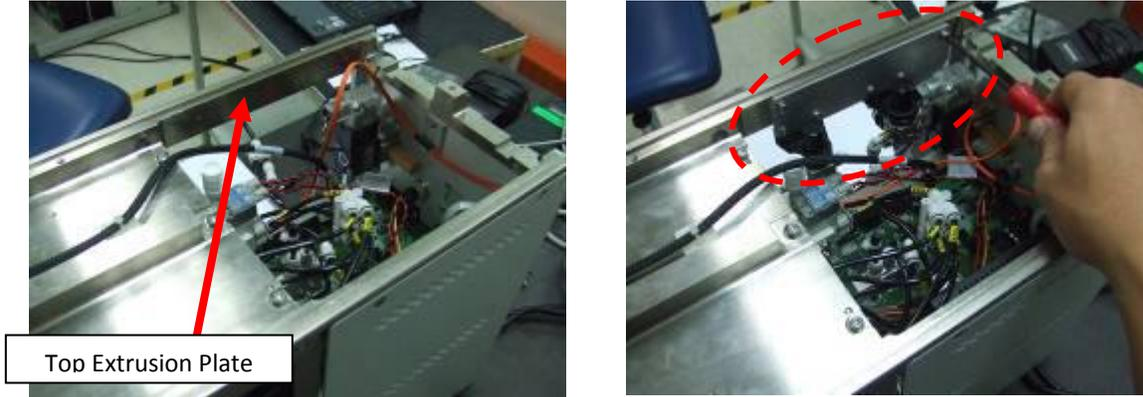

Figure 15: Installing the Pressure regulator mounting sub-assembly from Step 12 onto top extrusion plate
13. Subsequently, install the whole sub-assembly from Step 12 onto the top extrusion plate of the fixture as shown in Figure 15. Tighten 2 pieces of screws (SHCS M4 x 6) to hold the whole sub-assembly firmly on the top extrusion plate.